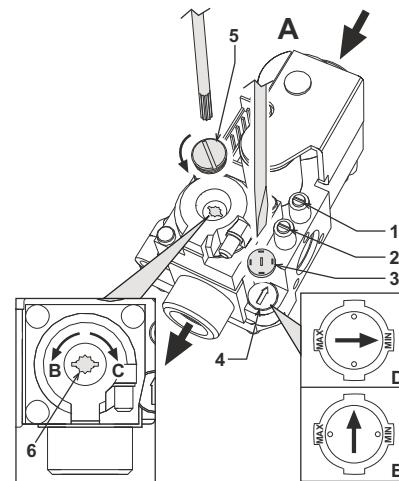

fig. 17 - Pressure adjustment
On PEGASUS D boilers, the firebox heating power and therefore the heat output delivered to the heating water can only be adjusted by means of the main burner through the gas valve, (see fig. 17). The diagrams given in the section cap. 5.2 indicate the variation in heat output delivered to the water according to the change in burner operating pressure. Being able to adjust boiler output to the actual heating requirements means above all reducing heat losses, and therefore obtaining fuel saving. Also, with the variation in output, also regulated by the provisions, the boilers keep their efficiency levels and combustion characteristics practically unchanged.
1. Using a small screwdriver, remove the secondary operator protection cap 5 of the gas valve of fig. 17.
2. Connect a manometer to the pressure point 2 (fig. 17) located below the gas valve, and turn the boiler thermostat knob to the maximum value.
3. Adjust the pressure to the required value by means of the screw 6 (fig. 17), referring to the diagrams given in section cap. 5.2.
2. Remove the small protection cap 3 (fig. 17) from the gas valve. Using a small screwdriver, adjust the ignition "STEP" for the required gas (**G20-G25** position **D** fig. 17 or **G30-G31** position **E** fig. 17); then refit the cap.
- Vent the air from the gas pipes by means of the gas valve pressure point 1 (fig. 17).